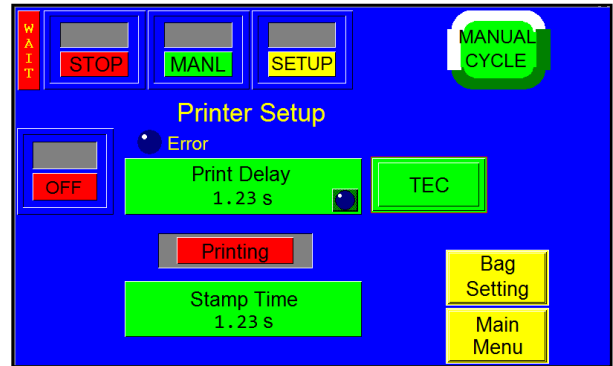

Figure 3-30
To enable Printer operation on the Thermal Transfer (TT) Printer, press the highlighted <Printer Ti-1000> button. Toggle <ON> to enable operation of the printer. See Figure 3-30.